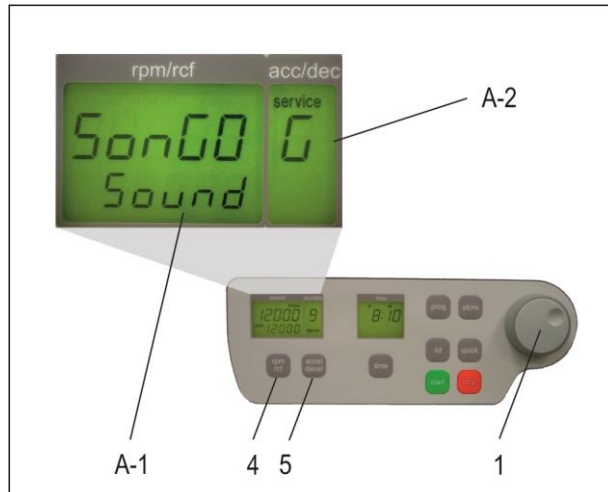

Figure9
Proceed as illustrated, under point 1.8.1, to enter this program mode, press the key, "accel/decel" (5). In the display, "accel/decel" (A-2) flashes the word, "service". Select the letter, "G" with the adjustable knob (1). As a result, appearing in the display, "rpm/rcf" (A-1), the word "SonGo/Sound". After pressing the key, "rpm/rcf" (4), select a song with the adjusting knob (1), (see Figure9).